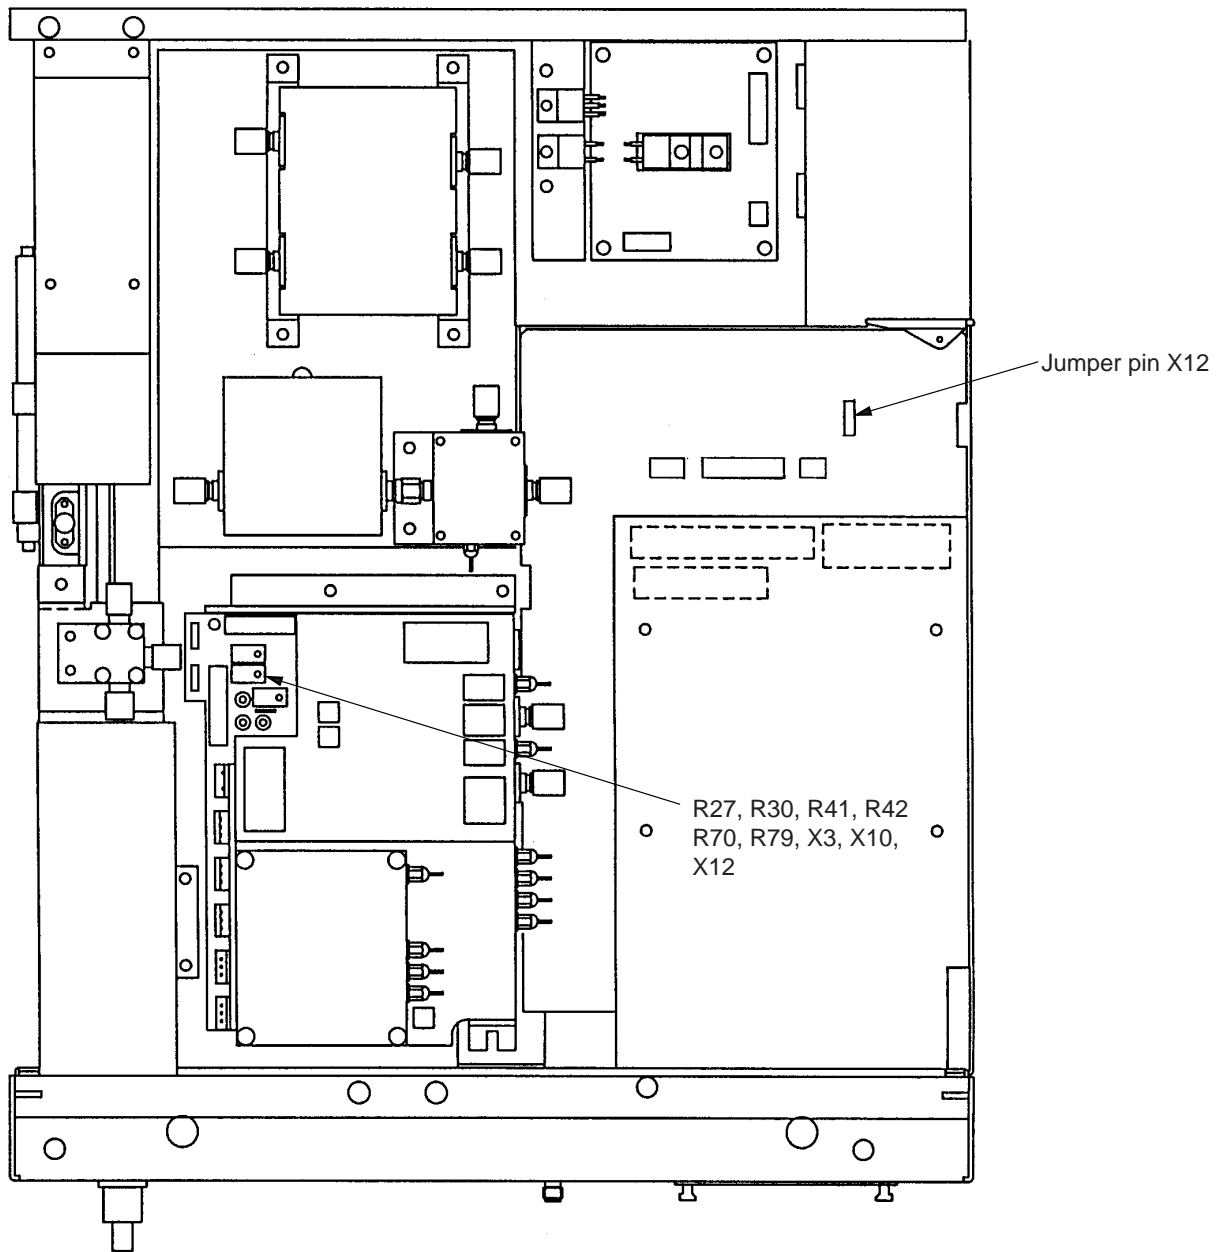

Fig. 3-2-5 The location of adjusters on 2nd CONVERTER
- 3) Enter Cal menu by pushing "Shift + 0" keys. Open the second page of the Cal menu, and enter Maintenance menu with "F6" key. Enter RF/Micro converter maintenance menu with "F2" key, and open the 6th page of the menu (Press "More" key 5 times).
- 5) Adjust the variable resistor R27 on the 2nd CONVERTER (refer to Fig. 3-2-5) to make multimeter reading -3.600  $\pm$ 0.005 Volts.
- 7) Adjust the variable resistor R30 on the 2nd CONVERTER (refer to Fig. 3-2-5) to make multimeter reading -7.600  $\pm$ 0.005 Volts.
- 10) Adjust R79 on the 2nd Converter (refer to Fig. 3-2-5) so as to shift the center of filter display about 5 MHz below the center frequency of the display.
- 17) Adjust R70 on the 2nd Converter (refer to Fig. 3-2-5) so as to shift the center of filter display to the center frequency of the display.
- 3) Set Marker of the spectrum analyzer to 22.2 GHz (Press keys “Marker” + “2”+“2”+“.”+“2”+“GHz”) and adjust R41 on the 2nd Converter (refer to Fig. 3-2-5) to make Marker read maximum.
- 8) Adjust R41 (rough adjustment) or R42 (close adjustment) on the 2nd Converter (refer to Fig. 3-2-5) until P1 + P2 become below  $\pm 8$ , to repeat the procedure 4) to 8).